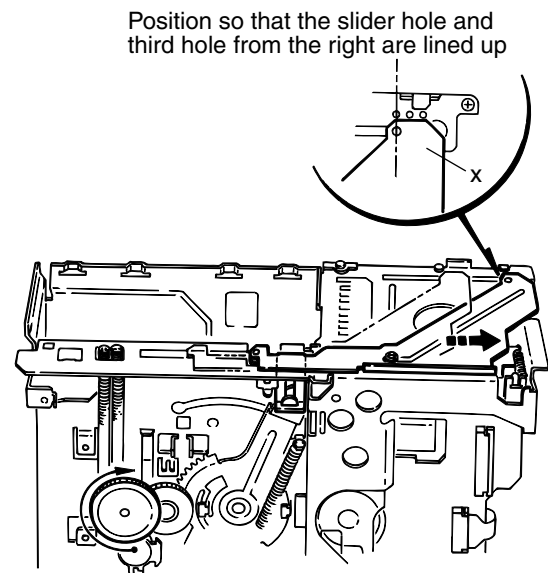

Fig. 48
■ Mounting the main PC board assembly (See Fig.48)